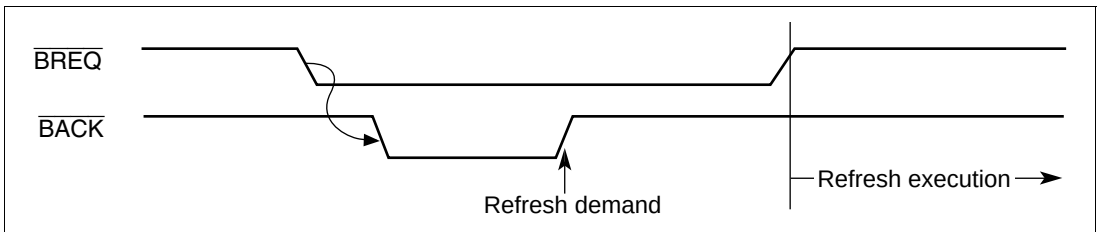

**Figure 8.36  $\overline{\text{BACK}}$  Operation in Response to Refresh Demand (1)**
1. If DRAM refreshing is requested in this chip when the bus is released and  $\overline{\text{BACK}}$  is low,  $\overline{\text{BACK}}$  goes high and the occurrence of the refresh request can be indicated externally. At this time, the external device may generate a bus cycle when  $\overline{\text{BREQ}}$  is low even if  $\overline{\text{BACK}}$  is high. Therefore, the bus remains released to the external device. Then, when  $\overline{\text{BREQ}}$  goes high, this chip acquires bus ownership, and executes a refresh and the bus cycle of the CPU or DMAC. After the external device acquires bus ownership and  $\overline{\text{BACK}}$  is low, a refresh is requested when  $\overline{\text{BACK}}$  goes high even if  $\overline{\text{BREQ}}$  input is low. Therefore, drive  $\overline{\text{BREQ}}$  high immediately to release the bus for this chip to hold DRAM data (see figure 8.36).